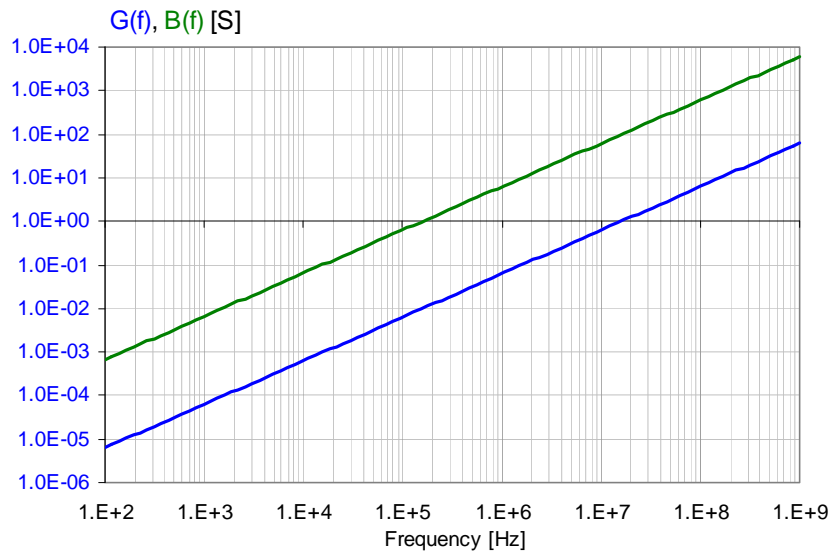

Figure 3.: Parallel conductance and capacitive susceptance as a function of frequency.
The parallel losses are described by a DC leakage current and a dielectric loss tangent, $D(f)$. For AC modeling we can usually ignore the DC leakage. In a simplified model we can also assume that the dielectric loss tangent is frequency independent and therefore the parallel conductance is $G = \omega C D_f$. If we want a causal model, the slight frequency dependence of C and D_f has to be taken into account. *Figure 3* shows the conductance (G) and the capacitive susceptance (B) for a 1 μ F capacitor with 1% D_f using the causal